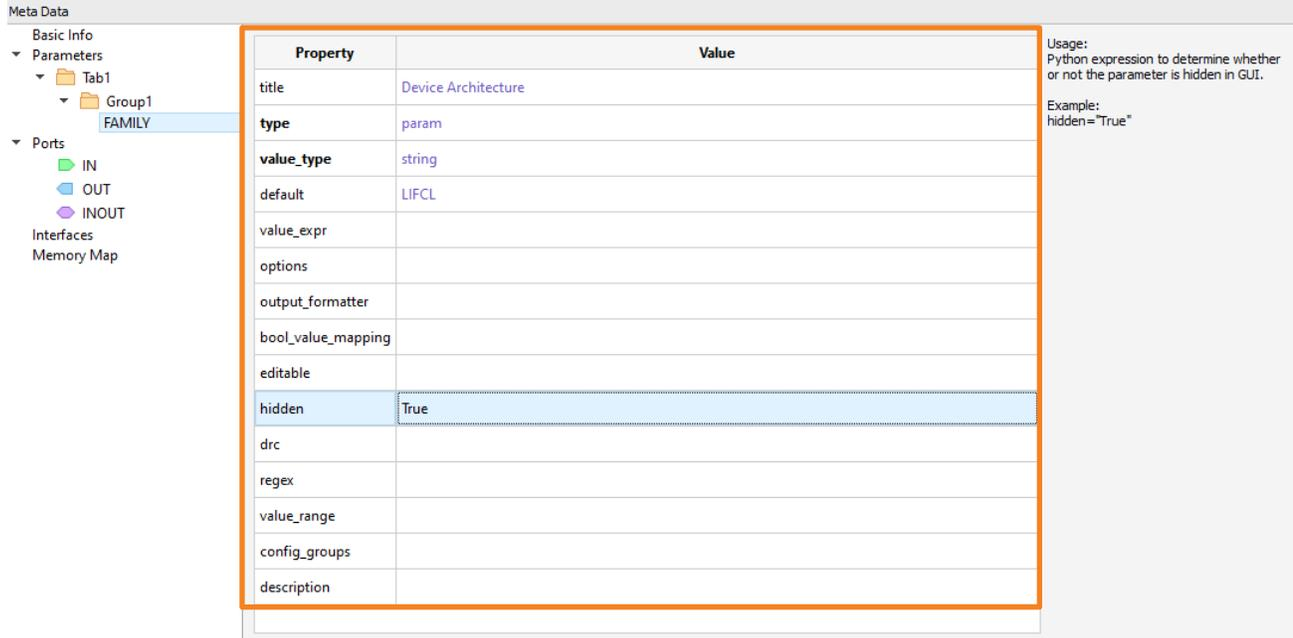

Figure 3.14. Configure a Parameter
- Double-click the property value field to enter the desired parameter value, or select the desired value from drop-down menu (Figure 3.14). The properties are thus configured. Property listed in bold must be configured. The details of each property is shown in Table 3.1